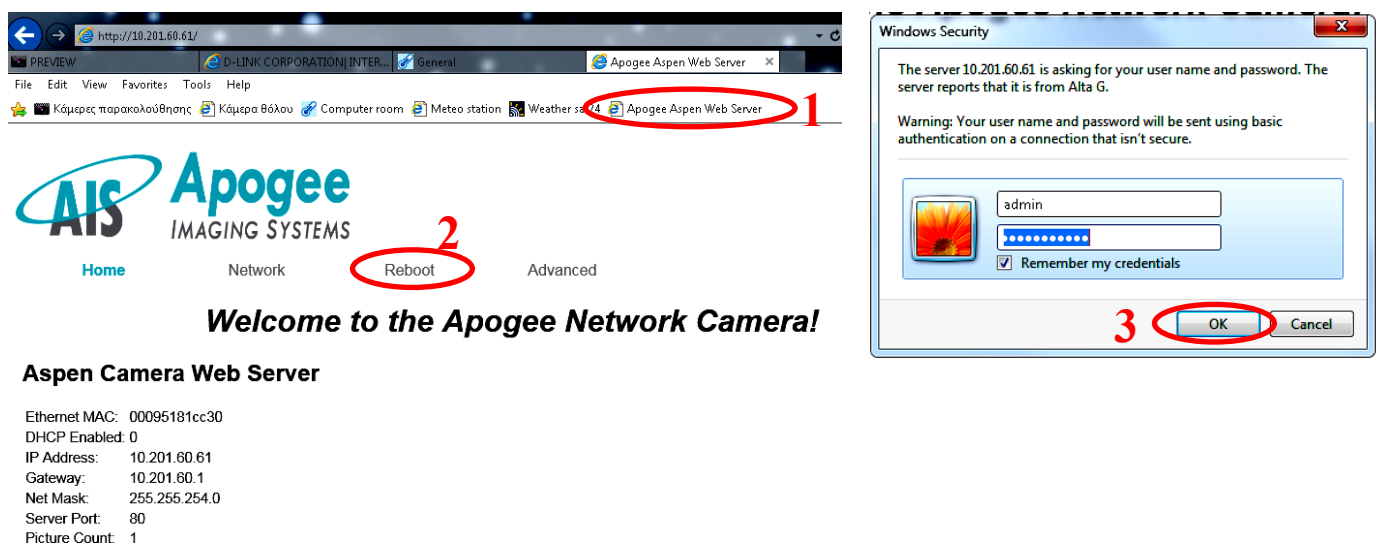
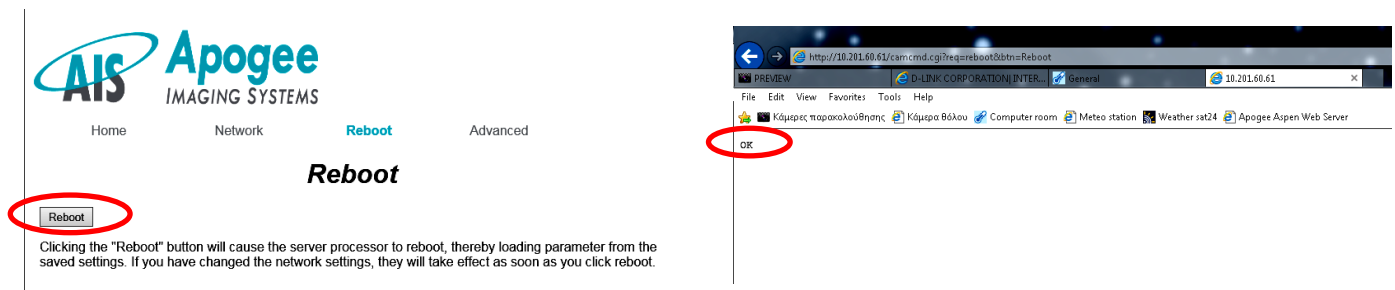

Fig. 5.3. Logging in the Apogee Aspen Web Server using the IE.
Fig. 5.4. Rebooting the Apogee Aspen CCD using the IE. Left: The Reboot menu. Right: The “OK” message after reboot is completed.
3. Open the “Internet Explorer” (IE) web browser.
4. On the favorites menu click on the “Apogee Aspen Web Server” (Fig. 5.3 left No 1). The home page is loaded.
5. On the menu, click on the “Reboot” (Fig. 5.3 left No 2). A pop up window opens with prefilled the Username and the Password boxes (Fig. 5.3 right). Press “OK”. The “Reboot” menu opens (Fig. 5.4 left).
6. Click on the “Reboot” button (Fig. 5.4 left). A white page with the message “OK” on the upper left is loaded (Fig. 5.4 right). Close this IE session.